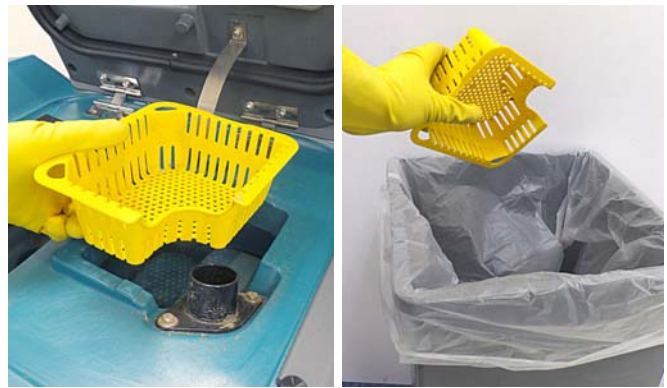

FIG. 96
2. Remove the debris tray and empty (Figure 96).